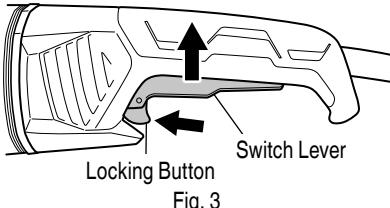

Fig. 3
- Turn the grinder "on" (Fig. 3)